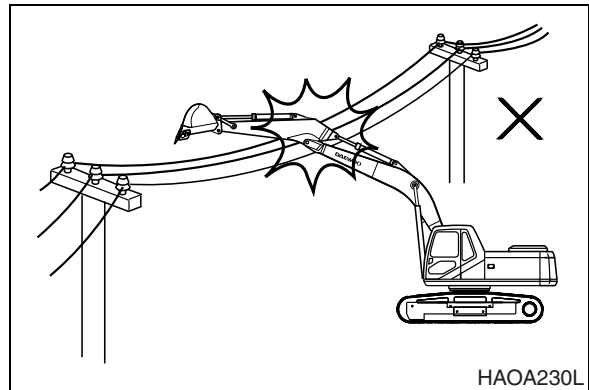

Figure 59
11. Make sure that there is adequate clearance from overhead electrical supply lines. See Figure 59.